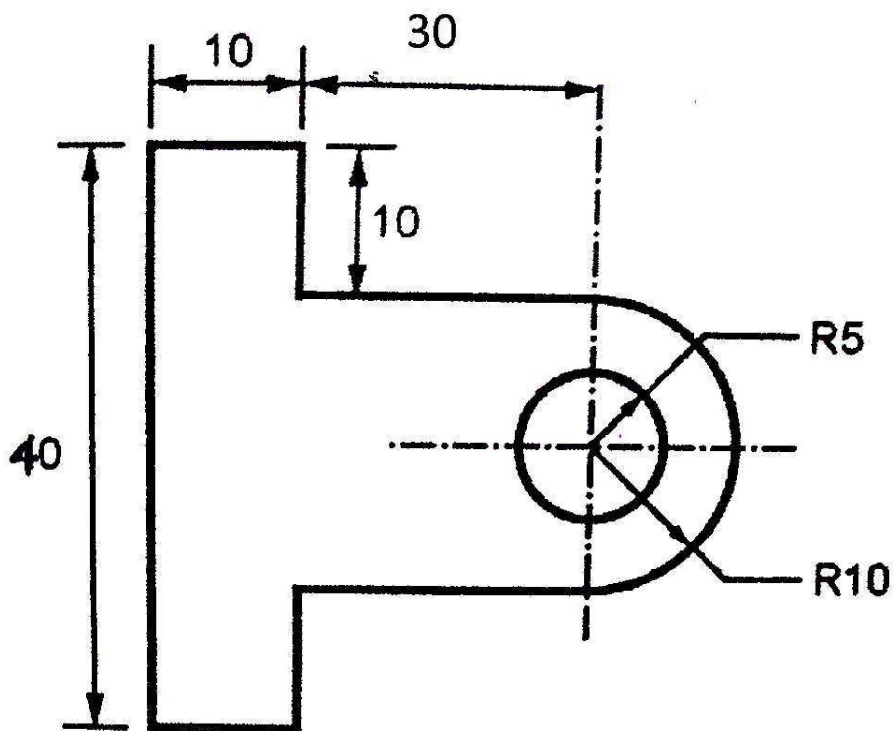

Fig. 6(b)
- (b) Find center of pressure for a MS part as shown in Fig. 6(b) with 1 mm thickness. Take ultimate shear strength of MS as 200 N/mm^2 . [7]